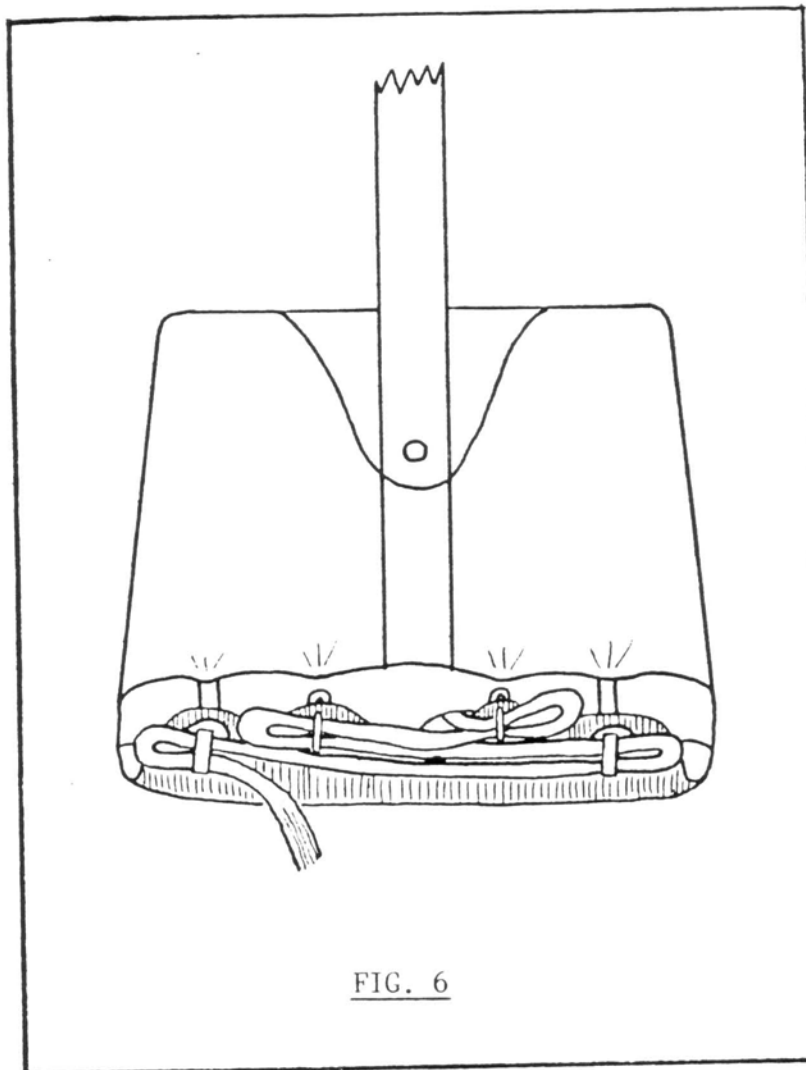

FIG. 6
- 5) Lock the mouth of the bag by making two stows with the suspension lines in the "safety-stow". (This is the loop made of 1/8" shock cord.) The third and fourth locking stows are made in rubber bands close to the sides of the bag (FIG. 6).